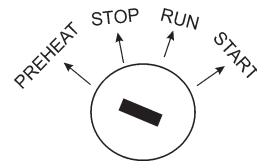

Figure 48. Engine Ignition Switch (Pre-Heat)
5. When starting the generator in **COLD** weather conditions, turn the **ignition key** to the “**PREHEAT**” position (Figure 48). In warm weather conditions, pre-heating is not necessary. Skip to step 7.